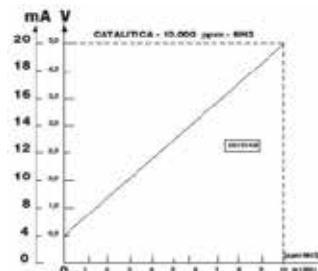

Fig. 2
- adjust the TR1 trimmer to read the desired voltage, referring to the fig. 2 diagram, on the voltmeter (ex: if a 2.000 ppm threshold is needed you have to adjust TR1 to read 1,4 V on the voltmeter - for EV/SGS/10-20/A)